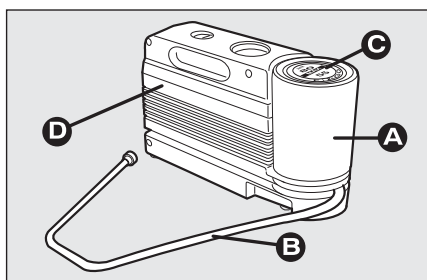

fig. 3
- ☐ bottle **A**-fig. 3 containing sealer and fitted with: